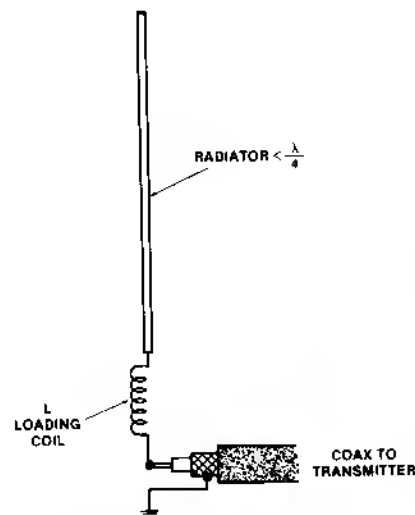

FIG. 20.1. A VERTICAL ANTENNA WITH A RADIATOR LESS THAN A QUARTER WAVELENGTH.
A vertical antenna with a radiator less than a quarter wavelength is usually used for mobile and portable communications. An example of such an antenna is shown in Fig. 20.1. The lack of length in this antenna is made up by inductance (L) placed in series with the radiator. This inductor is used to cancel the capacitive reactance caused by using a radiator that is too short for the resonant frequency. The transmission line center conductor is connected to one end of the inductor, while the transmission line shield is connected either to ground (which could be earth ground or the body of a vehicle depending upon whether operation is mobile or portable) or to a quarter-wave radial. The radial consists of one or more parallel wires connected to the shield. The wires have a length of $L \text{ (ft)} = 246/F \text{ (MHz)}$.